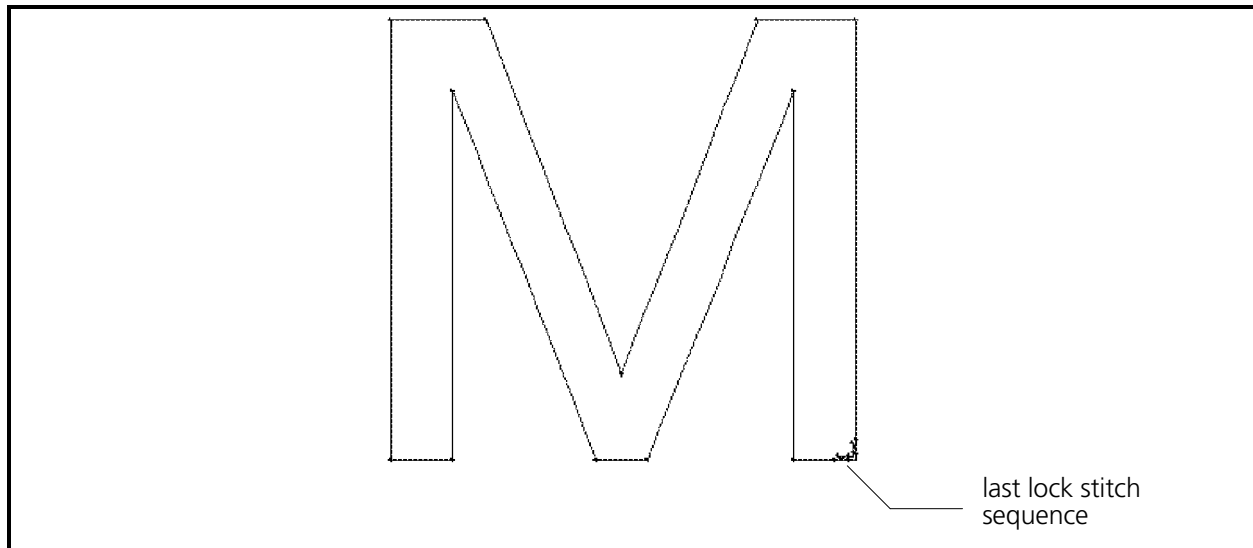

Figure 6-30
6. After placing the last outlining Mk1 put a series of 3 or 4 lock stitches along the bottom of the right leg of the letter **M** as you did starting the **M**. Have the lock stitches run horizontally along the bottom as not to be directly on the first set of lock stitches that ran vertically from the corner (see Figure 6-30). The last Mk1 should end at or near the corner.